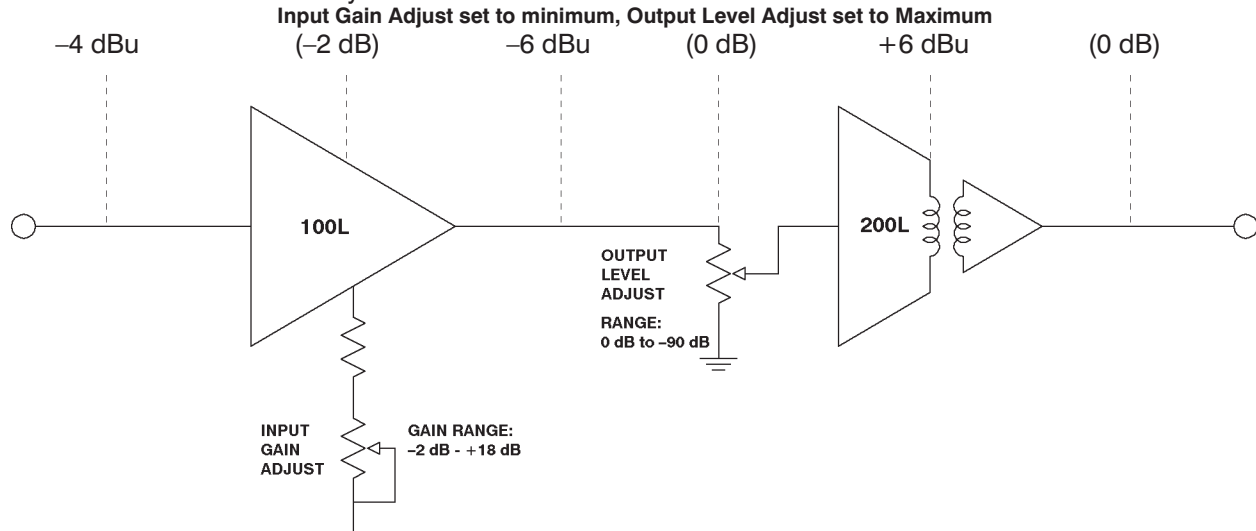

Figure 2 - Gain Structure
1. Locate a proper slot in the mainframe. Mainframe slots are set up on the rear panel of the mother board according to the card type to be used. Slots are dedicated by installing the proper trimpots. Trimpots **MUST** be installed as indicated in Figure 2 and 3 for inputs and outputs to function. Microphone level inputs require 200 Ω trimpots. All others require 10 k Ω trimpots. Slots labels are applied at the factory above each slot position.
The gain structure diagrams in Figures 2 - 3 show the signal levels and gains or losses at key points in the cards. Since all outputs on a card behave identically, only one output is shown in the diagrams. In the examples the Input Gain Adjust pots were set for minimum gain (fully counterclockwise), and the Output Level Adjust pots at maximum output (fully clockwise). The levels and gains shown are those required to produce an output level of 0 dBu.